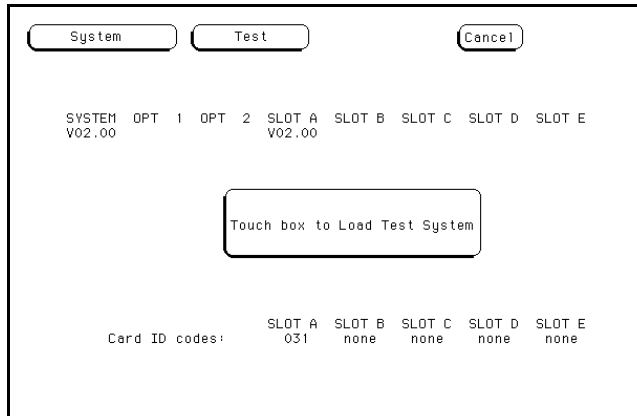

Figure 6-3. Load Test System
- c. Insert the PV Test System disk and touch box to load **Test System**. See figure 6-3.